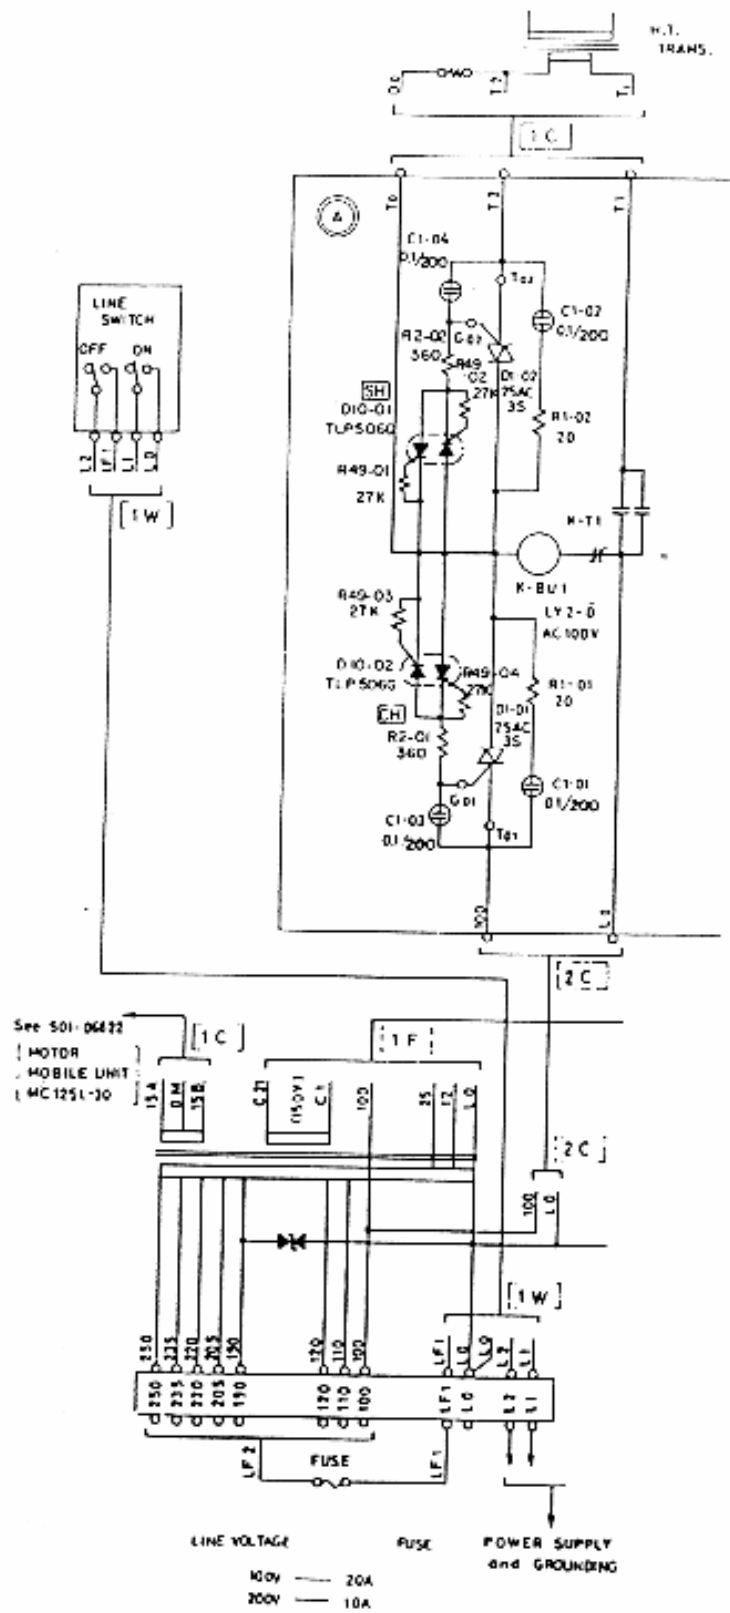

Fig. 3-1-1
- (1) Figure 3-1-1 is the connection diagram of the low tension side of this circuit.